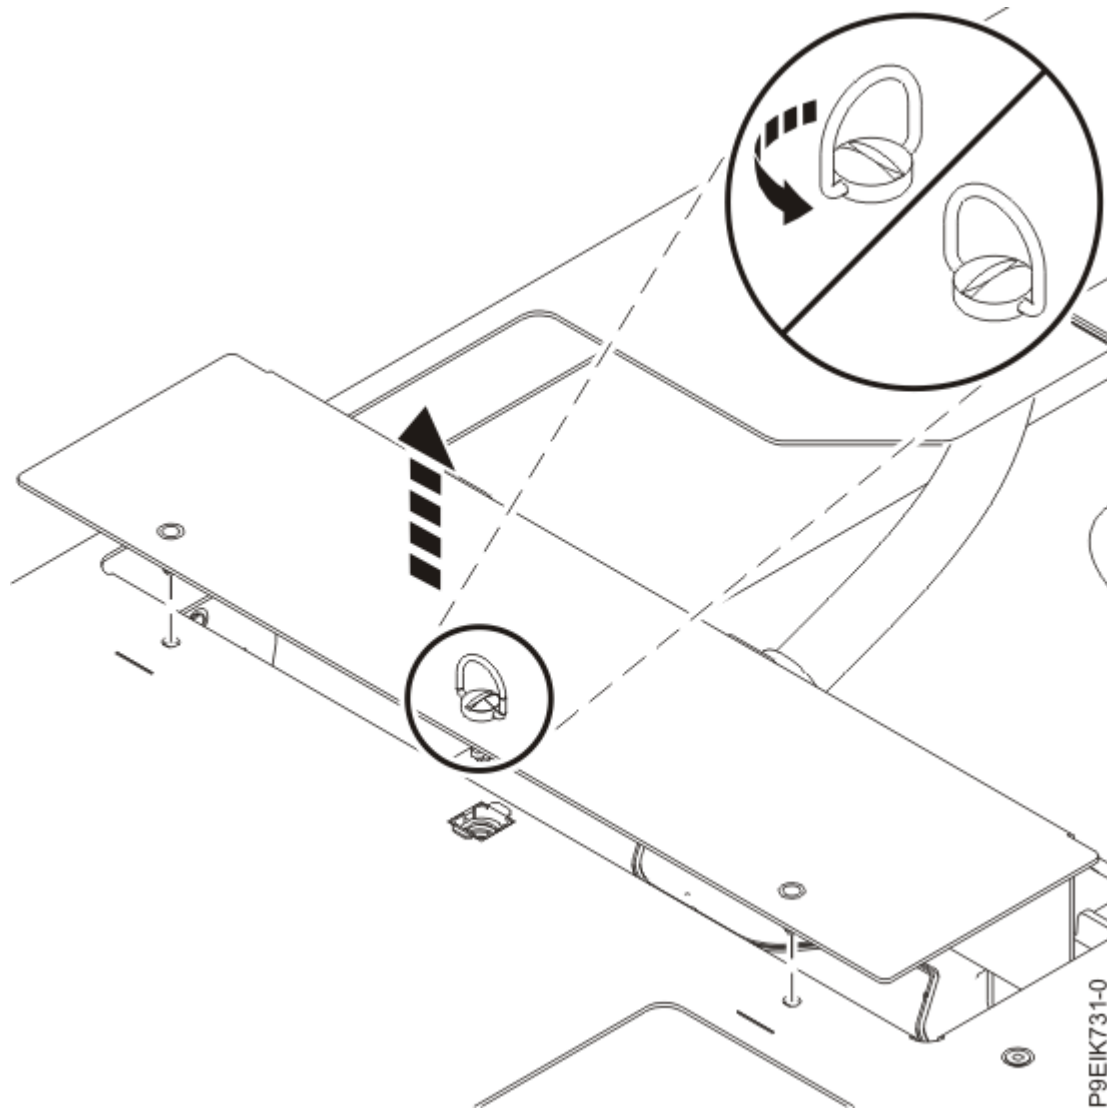

Figure 51. Removing the GPU cold plate holder from the carrier
- b) Unscrew a GPU cold plate holder from the cold plate installation carrier as shown in Figure 51 on page 53.